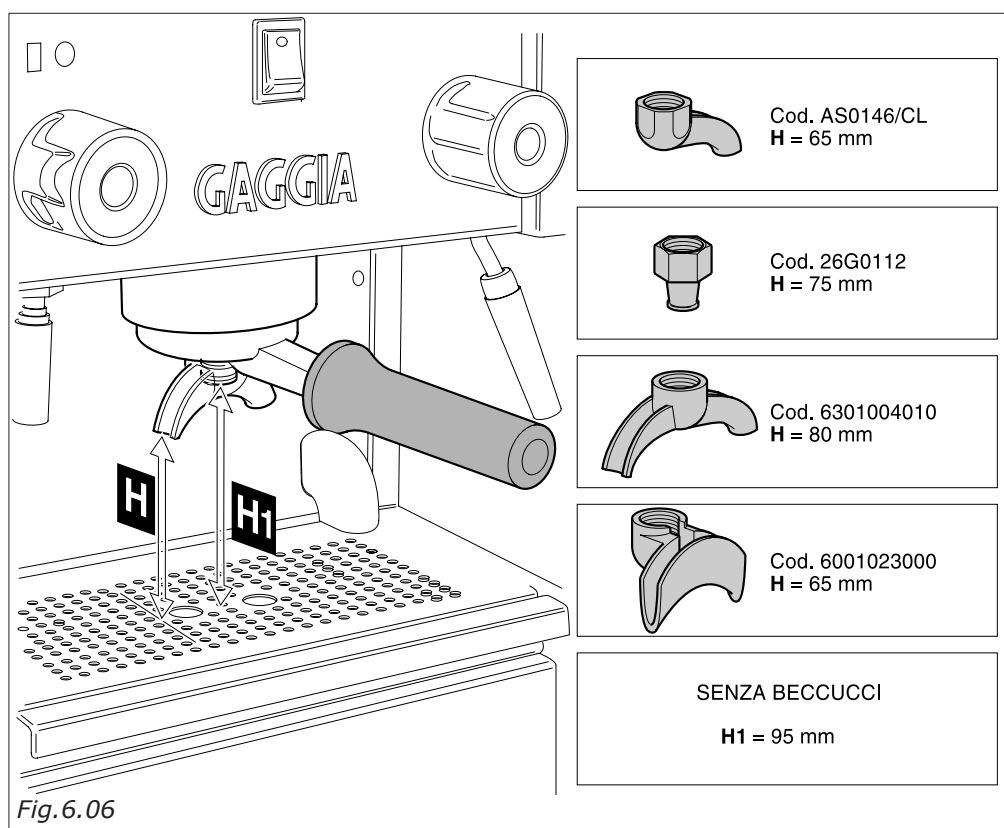

Fig.6.06
6.2 BECCUCCI A CORREDO MACCHINA (Fig.6.06)